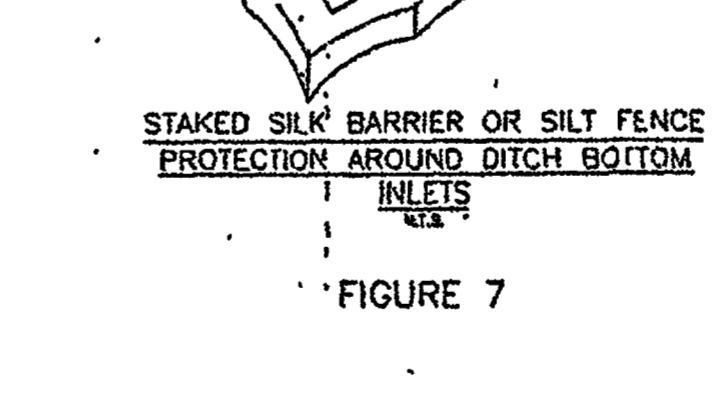

FIGURE 10
- 3.6 Where required to prevent erosion from sheet flow across bare ground from entering a lake or swale, a temporary sediment sump shall be constructed as shown in Figure 10. The temporary sediment sump shall remain in place until vegetation is established on the ground draining to the sump.